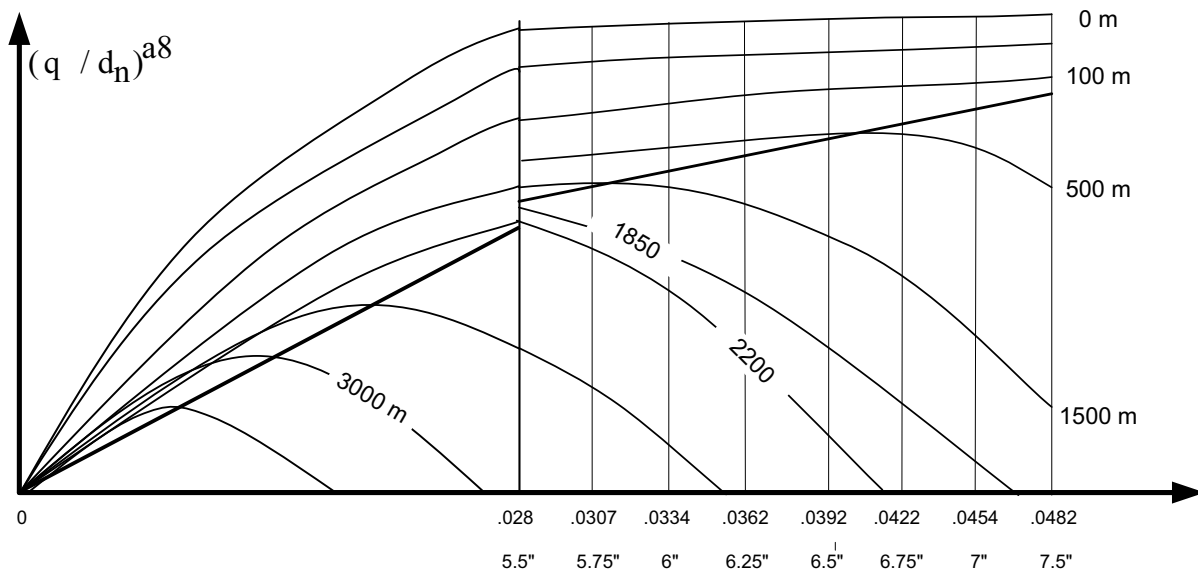

Figure 4-6: Hydraulic Data.
4.6 Liner selection. Complete well The characteristics of a 1600 HP piston pump are found in Chapter 6; Supportive Information, while the optimal operational functions are presented graphically in Figure 4-6. The optimal pump pressure values are in general the maximum ones, given for each liner size. Maximum values are the recommended values in the pump's liner table, which in fact are around 85 % of the absolute maximum. In Figure 4-6 the flow rates are in correct scale, while R_p -values are only qualitative. Hydraulic parameters, the bit program and minimum and maximum flow rates are presented below and in Table 4-6: